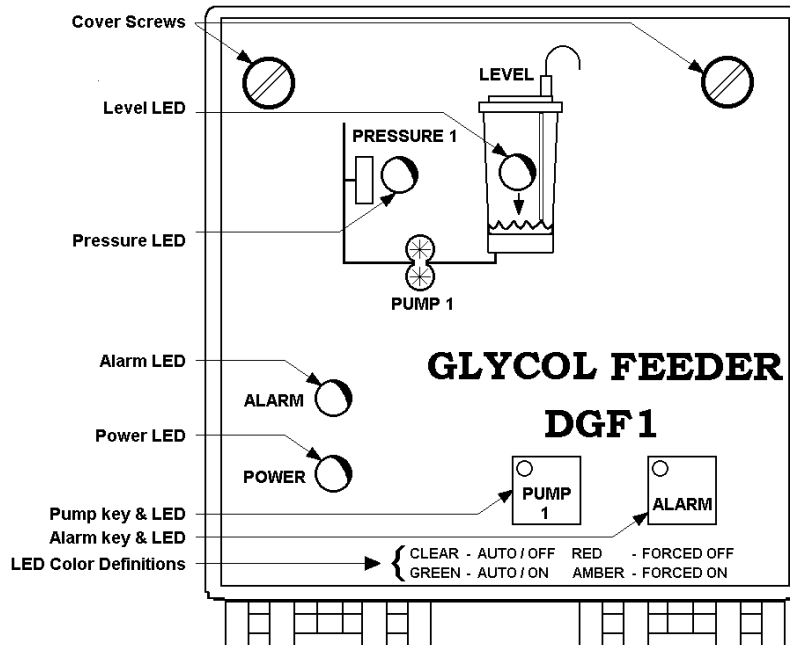
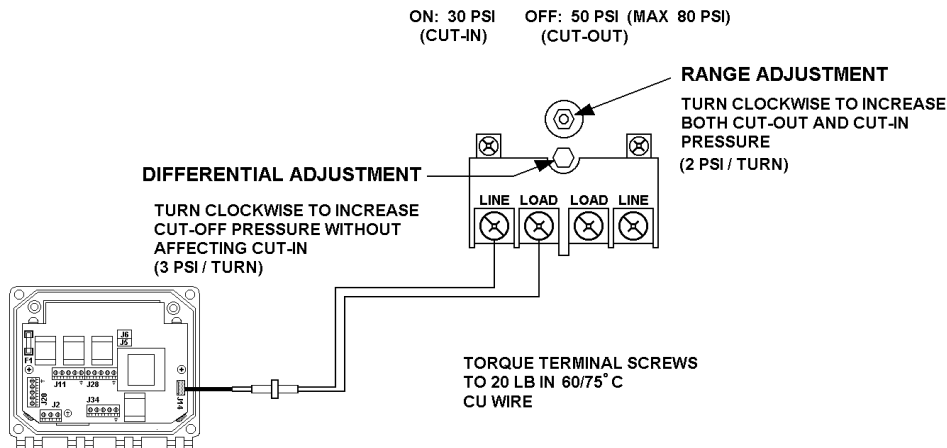

Figure 20 – User Interface
Figure 22 – High Pressure switch
The User Interface is shown below (*Figure 20*).
- a) If the LED is RED, adjust the Pressure Switch Range Adjustment Screw (refer to *Figure 22*) counter-clockwise until the Pressure LED goes out (refer to *Figure 20*).
- b) Adjust the Pressure Switch Range Adjustment screw (refer to *Figure 22*) if the indicated pressure is not correct for your application.